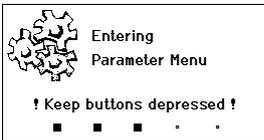

Fig. 8
1. Press and hold down keys **16** and **1** or **16** and **2** or **6** and **3** or **6** and **4** simultaneously. While the device is changing over to the parameter menu, the display shows the following message text (see also Fig. 8): "Changing over to parameter menu" "Hold down keys".